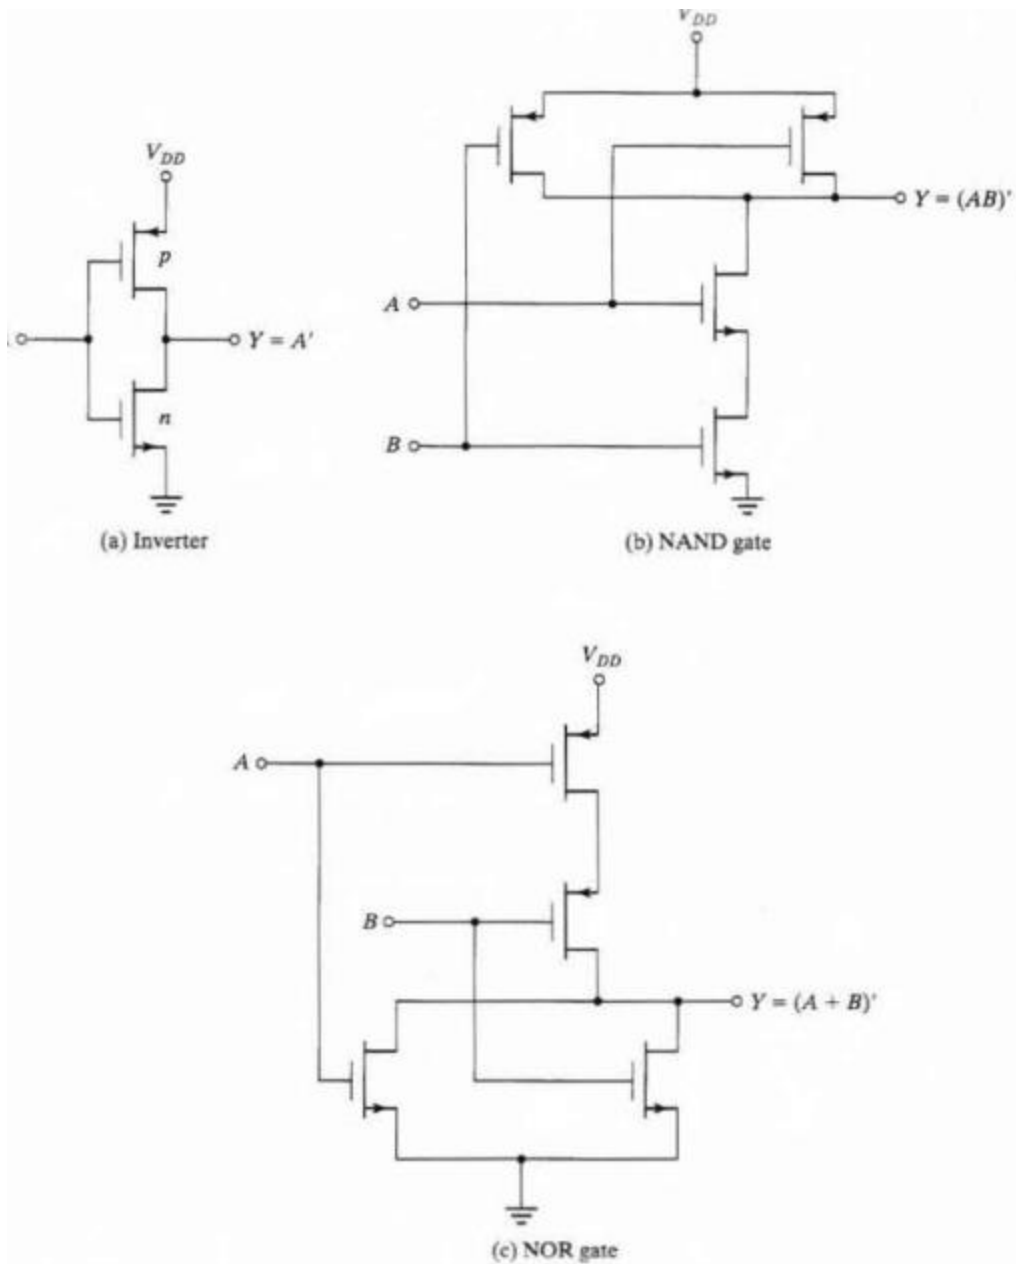

Fig 18. CMOS logic circuits
- Now consider the operation of the inverter shown in figure 18 a. When the input is low, both gates are at zero potential.
- A two-input NAND gate shown in figure 18 b consists of two p-type units in parallel and two e -type units in series
- A two-input NOR gate shown in fig 18 c. consists of two n-type units in parallel and two p -type unit, in series.
- The inverter circuit is redrawn with these symbols in Fig. 18. A logic 0 in the input causes the upper transistor to conduct, making the output logic 1.